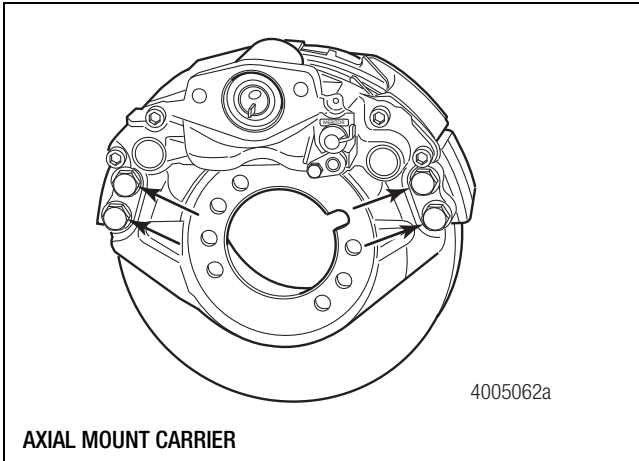
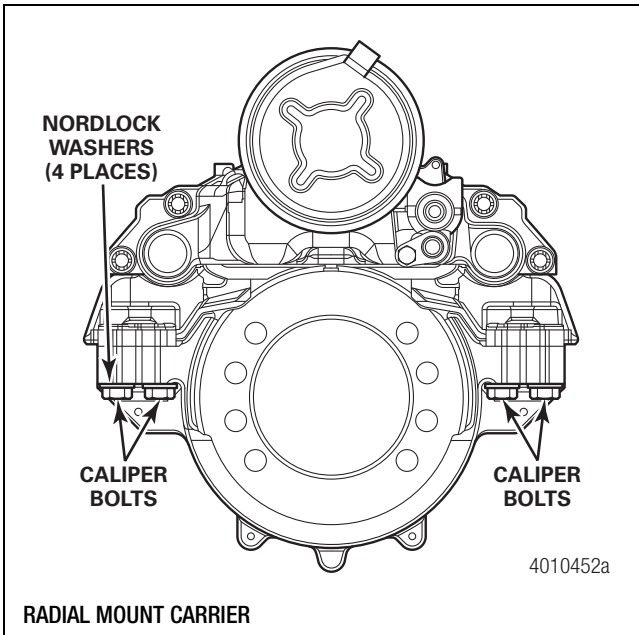

Figure 5.3
Figure 5.4
4. For both axial and radial mount carrier style brakes, use an appropriate size socket wrench (or if necessary, extension adapter MST225 5001 if available) to remove the carrier bolts and washers. Refer to Section 10. Figure 5.3 and Figure 5.4. Carefully remove the caliper assembly from the axle.